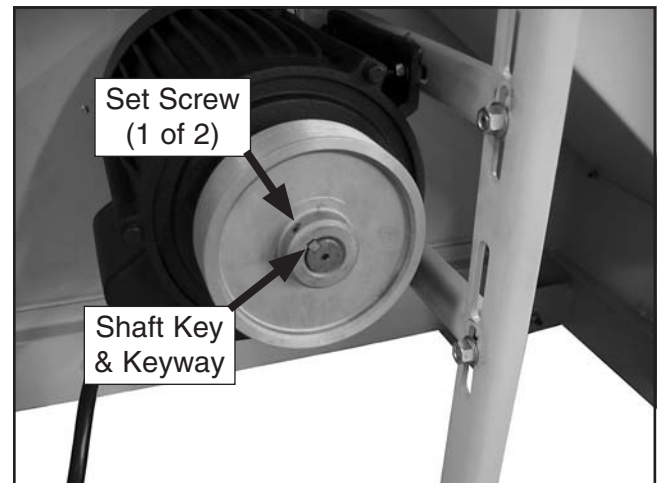

Figure 3. Motor pulley installed.
6. Align the internal keyway of the motor pulley with the shaft key, then slide the pulley onto the shaft until the shaft is even with the protruding face of the pulley, as shown in **Figure 3**.